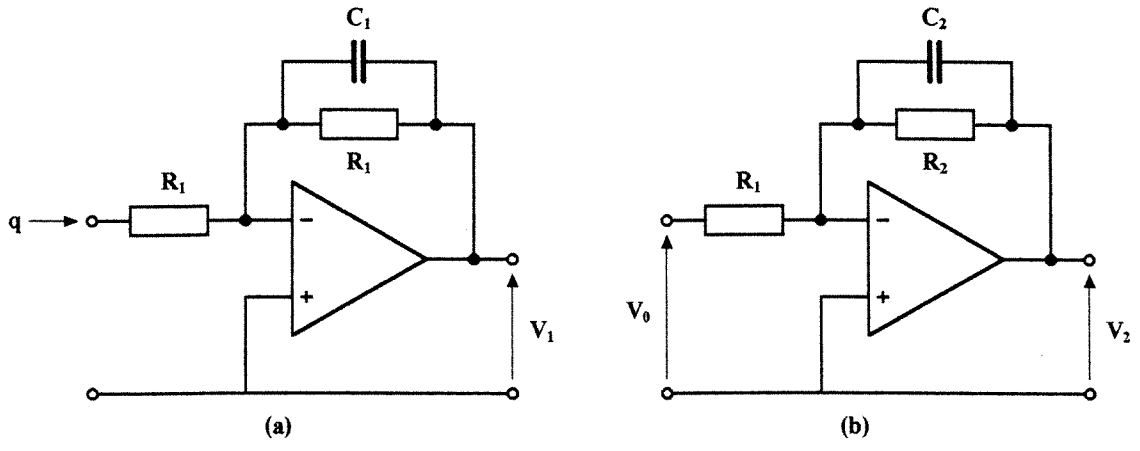

Fig. 3
5. Sophisticated electronics are used in most modern pipeline inspection systems for system control, signal amplification and data-logging. Fig. 3 shows two such amplification circuits.